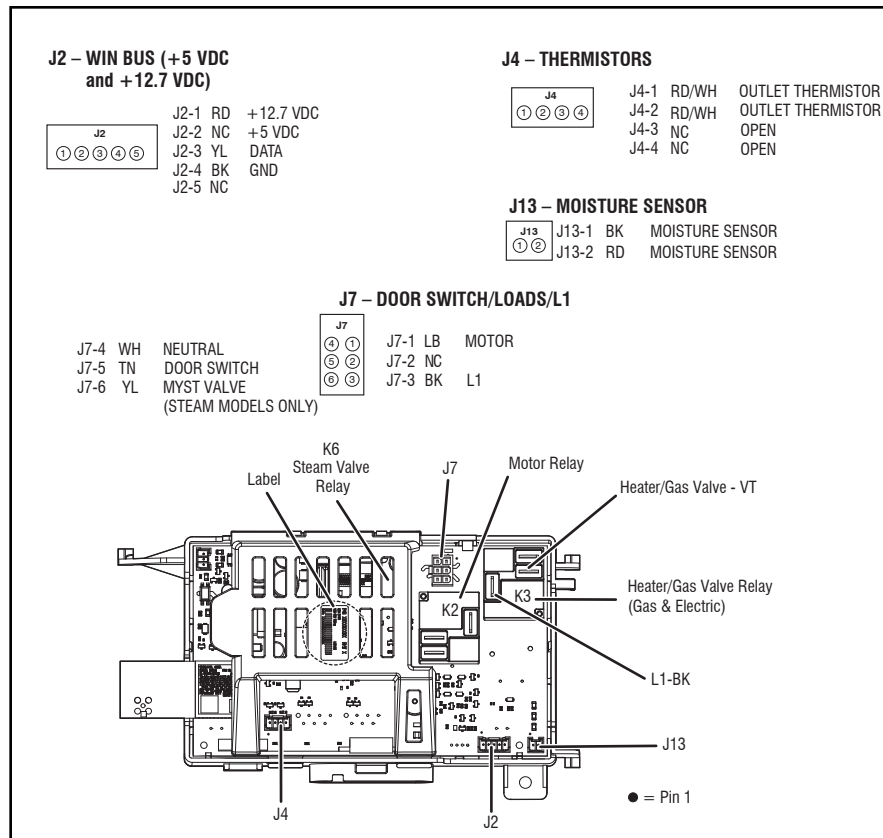
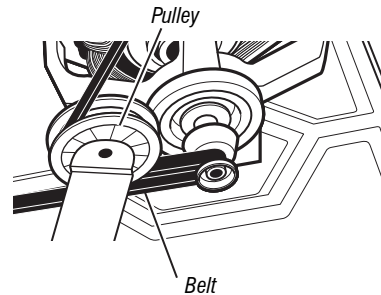

Figure 1 - ACU Connectors and Pinouts
Figure 6 - Slowly remove drum belt.
5. **ACU VAC** – With voltmeter set to AC, connect black probe to ACU J7-4 (N) and red probe to J7-3 (L1). (See Figure 1.) Plug in dryer or reconnect power.
5. With an ohmmeter, check for continuity between the neutral (N) terminal of the plug and J7-4 (white wire) on the ACU. The left-hand side of figure 6 shows the position of the neutral terminal (N) on the power cord plug. Also see figure 1, page 18.
- If there is no continuity, check the continuity of the power cord in a similar way to that illustrated in figure 6, but for power cord's L1 wire.
7. Check the drive motor. Slowly remove the drum belt from the spring-loaded pulley, gently letting the pulley down. See figure 6.